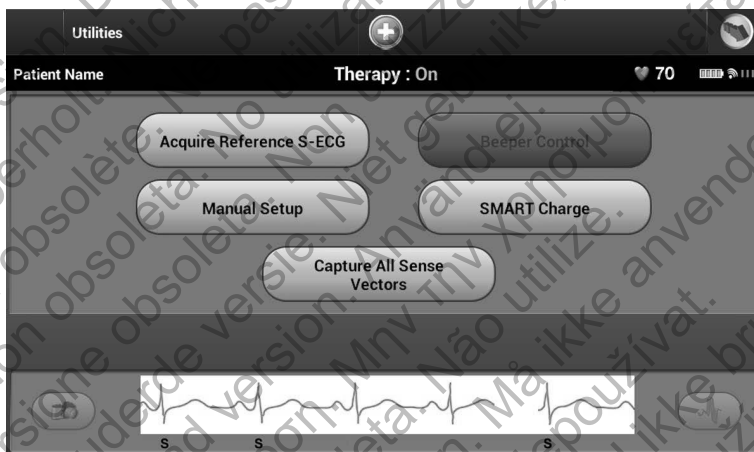

Figure 47: Utilities screen
It is also possible to capture S-ECGs corresponding to all three sense vectors (Primary, Secondary, and Alternate) by using the Capture All Sense Vectors button on the Utilities screen (Figure 47).
2. Select the Utilities button. The Utilities screen appears (Figure 47).